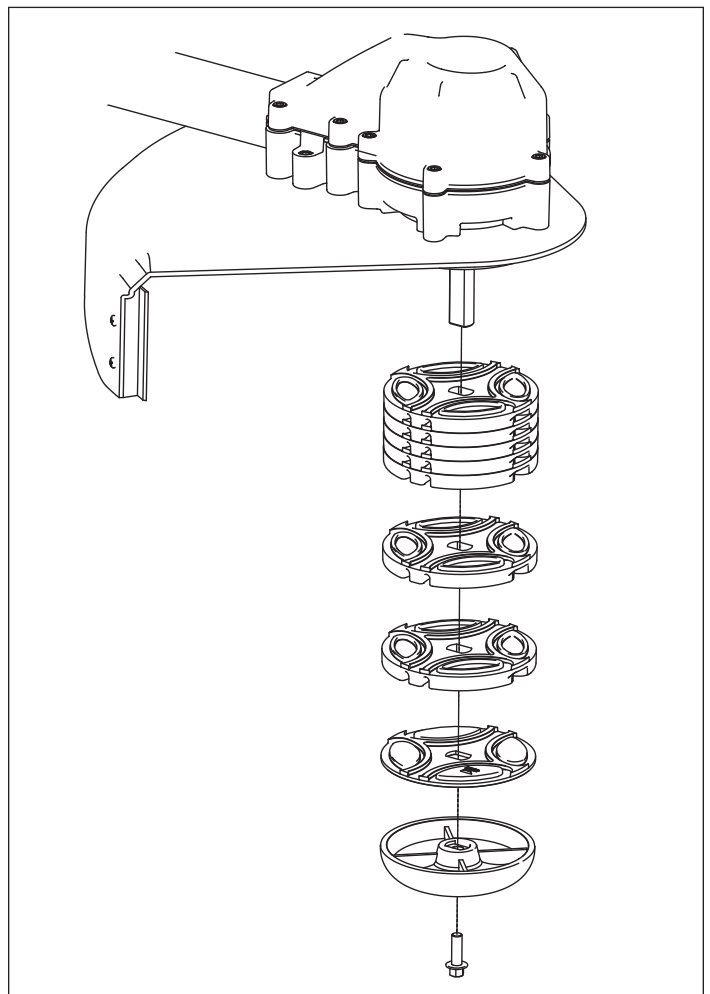

Figure 5
6. To remove line, pull by the knot until cutting line is removed. If line becomes stuck, pliers may be used to grip knot and pull out line, or disassemble cutting head discs as shown in **FIGURE 5** to allow for release of cutting line.